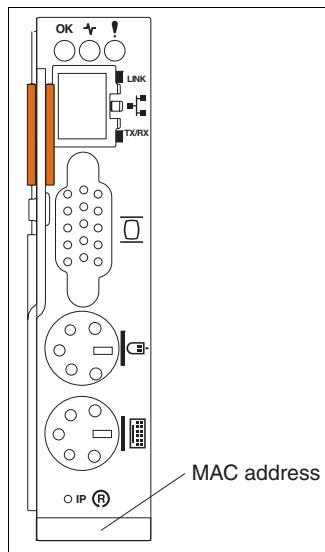

Figure 4-3 MAC address of BladeCenter management module
2. If there is no response from a DHCP server within two minutes, the management module will use the default IP address 192.168.70.125 with subnet mask 255.255.255.0. The host name will be MMxxxxxx, where xxxxxxxx is the MAC address of the management module. The MAC address is printed on a label in the lowest position, as shown in Figure 4-3.